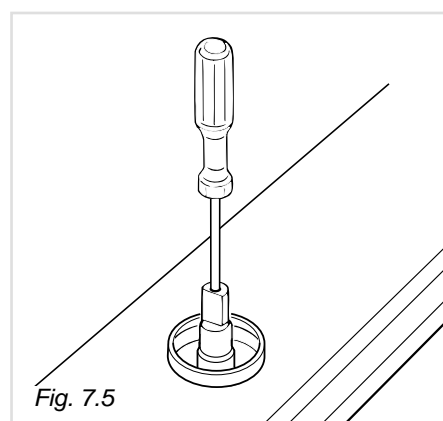

Fig. 7.5
**On gas valves provided with adjustment screw in the centre of the shaft** (fig. 7.5):